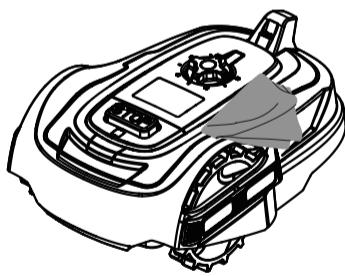
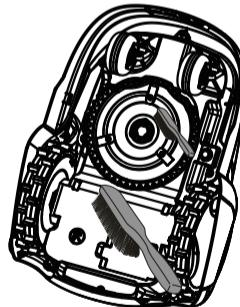

Fig.5-1-1
Fig.5-1-2
- Use a low-pressure washer and a soft brush or towel to clean the front part (Fig.5-1-1, Fig.5-1-2).